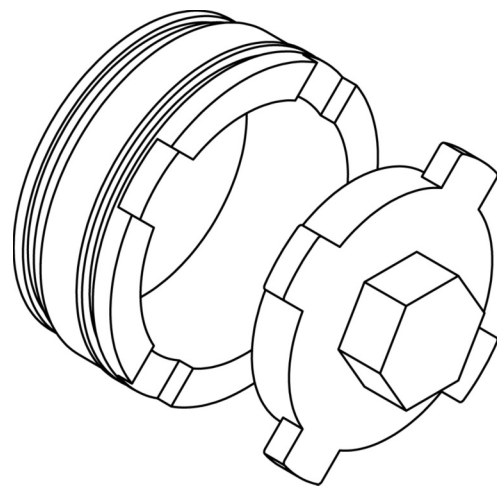

Figure 6: Seat Retainer Tool
- Loosen the retainer, turning it counterclockwise and remove it from body (a special tool may be purchased for this purpose, see Figure 6). Remove the metal seat(s) and, if applicable, remove also the soft seat.